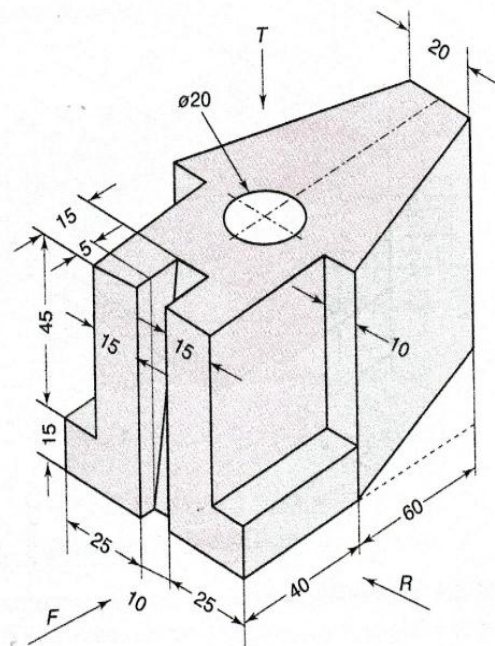

Fig. 5.29(i) Isometric views of a steel block
**Solution** Refer Fig. 5.29 (ii)